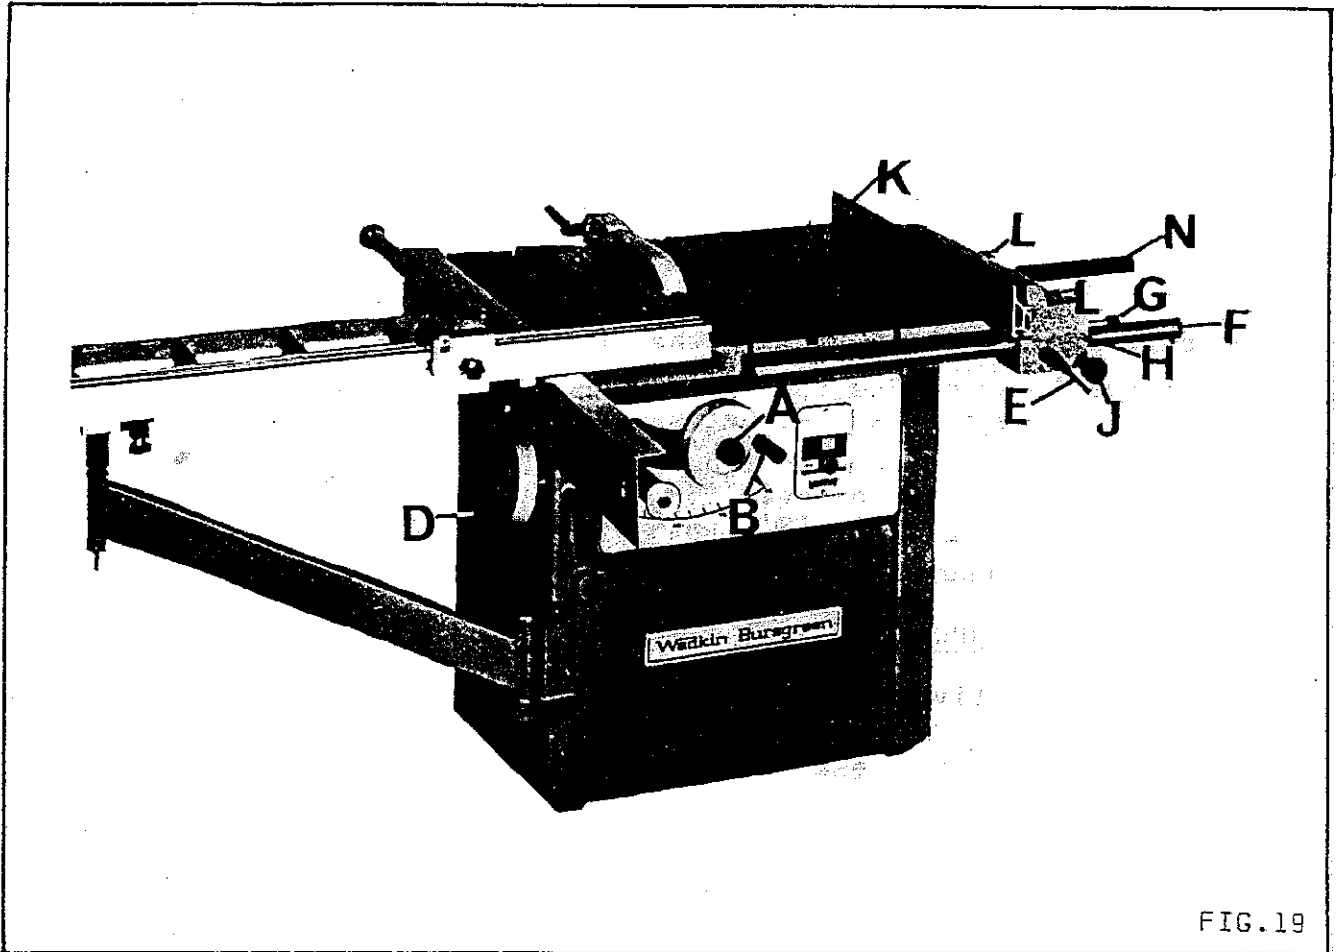

FIG.19
To re-assemble rip fence, proceed as follows and refer to FIG.19:-
Release locking handle 'A' in FIG.19 and raise or lower the saw arbor by the handwheel 'B' to the required position then relock handle 'A'.
Release locking handle 'C' in FIG.19 and turn handwheel 'D' working in conjunction with the canting scale indicated by the pointer to the required saw position. Relock handle 'C'.
- 1) Loosen locking handle 'E' FIG.19.
The fence plate 'K' in FIG.19 has two positions. Position shown in FIG.18 is for use with deep stock, fence can be moved longitudinally to facilitate this. Position shown in FIG.19 is for use with faced panels, melamine, veneer, etc.
- 1) Loosen handwheels 'L' in FIG.19 then slide fence plate from fence body.
When the fence plate position has been changed as previously described, the pointer 'G' in FIG.19 must be reset accordingly.
- 1) Loosen locking handle 'E' FIG.19, then move fence to a position which would allow a reasonable cut to be taken. Turn locking handle 'E' to lock fence in position.